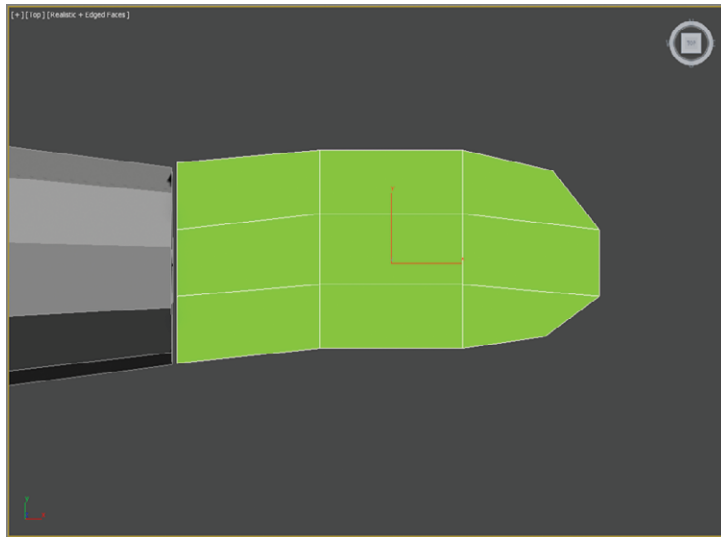

FIGURE 8.26 Reshape vertices to create a mitten shape.
4. Then, in Vertex mode, move the vertices to create a mitten arc, as shown in Figure 8.26.